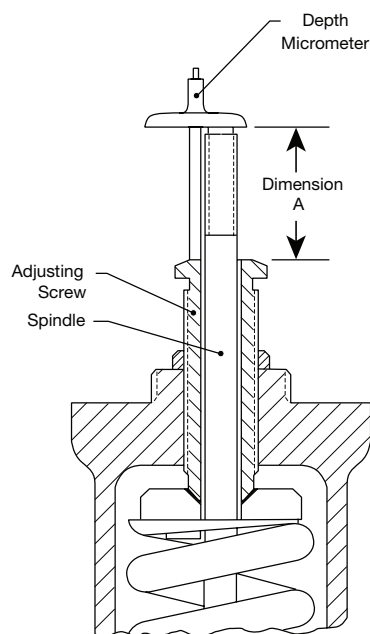

Figure 10
3. Use dial caliper or depth micrometer to measure and record dimension "A" of Figure 10 from the top of the spindle to the top of the adjusting screw. This will be used later for adjustment of the valve to near its original set pressure. Loosen the adjusting screw lock nut. Turn adjusting screw counter-clockwise to remove the spring load. When turning the adjusting screw use Vise-Grip® pliers to hold the spindle.